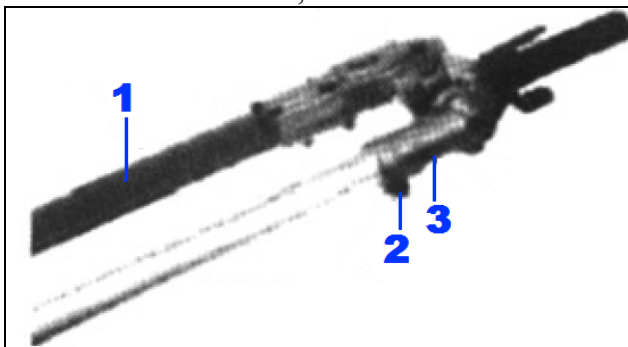

Fig.HT3
3. With a screwdriver, check that all screws are correctly tightened (Fig.HT3).